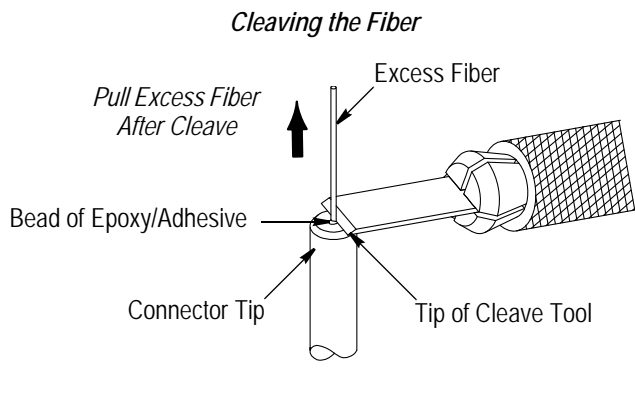

Figure 12
2. Place the cleave tool sapphire cutting tip just above the epoxy/adhesive, as shown in Figure 12.